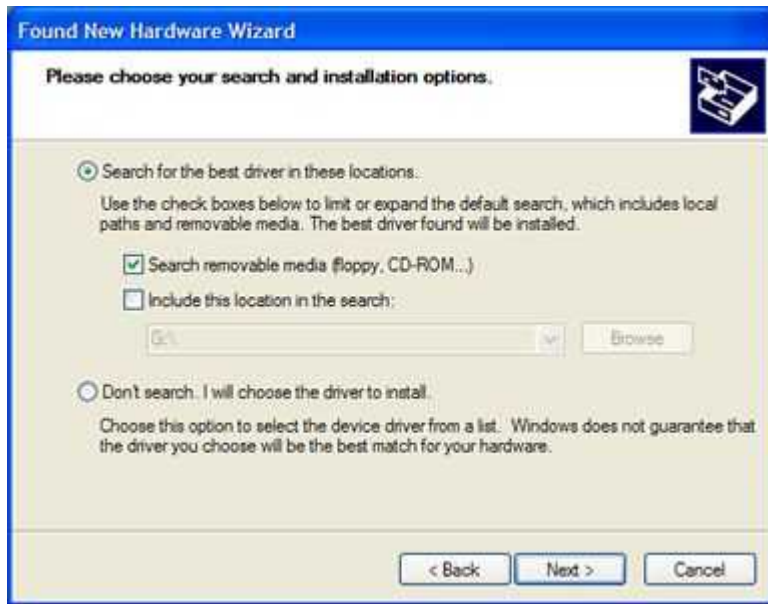

Figure 3
- 8 You will now have a screen as Figure 3. Select "Search removable media", then Click On "Next".